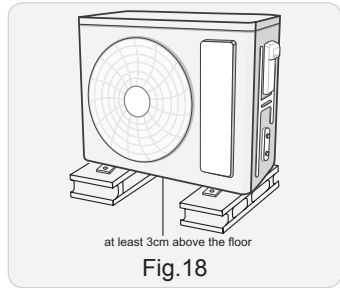

Fig.18
(1) Take sufficient protective measures when installing the outdoor unit.
(2) Make sure the support can withstand at least four times the unit weight.
(3) The outdoor unit should be installed at least 3cm above the floor in order to install drain joint.(As show in Fig.18)
(4) For the unit with cooling capacity of 2300W~5000W, 6 expansion screws are needed; for the unit with cooling capacity of 6000W~8000W, 8 expansion screws are needed; for the unit with cooling capacity of 10000W~16000W, 10 expansion screws are needed.